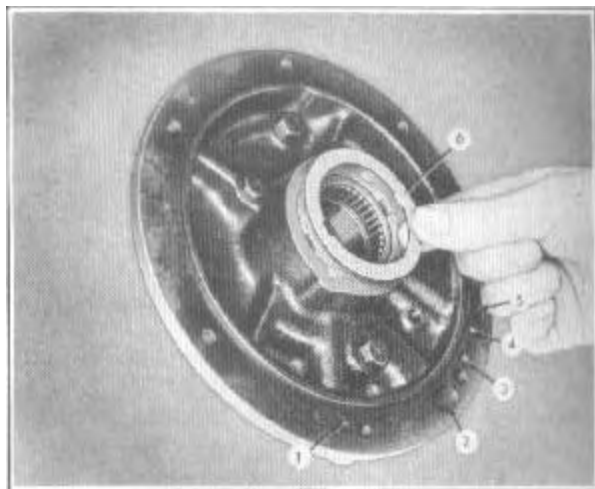

FIGURE 86
1. Remove the front ring gear selective thrust washer (6), Figure 86, from the
1. Thoroughly clean all parts in a good CLEAN solvent, make sure all passages are clear, the passages are identified in Figure 86 as follows:
2. Clean the collector ring face, install the large "O" ring seal in groove in collector ring and the small "O" ring seal in the groove at front pump pressure passage (2) in collector ring, Figure 86.
6. Coat the hub of the collector ring with petroleum jelly and install the correct thickness front ring gear front thrust washer on the rear face of the assembly, Figure 86. Fully engage the tongs of the washer in the slots in the hub.